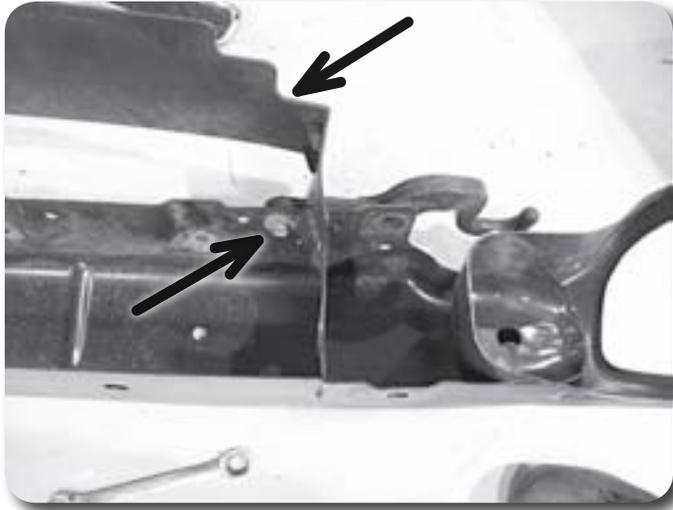

Figure 6
9. Remove the bolts mounting the tow hooks to the bumper Figure 6. These cannot be reinstalled after the bumper is relocated.
10. Remove the plastic shroud from the inside of the bumper Figure 6. It will not be reused